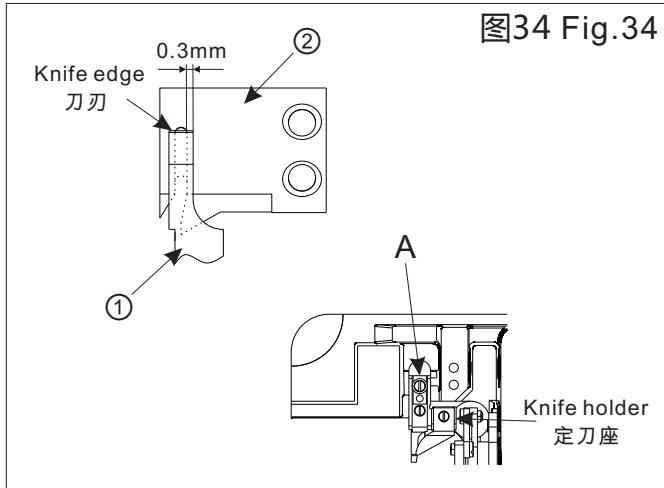

图34 Fig.34
2.定刀片与动刀片的关系 (图34)
2.The relation between fixed knife and movable knife(Fig.34)
1)The clearance between fixed knife ① and movable knife ② should be 0.3mm
2)Adjust the position illustrated by the Fig.34.